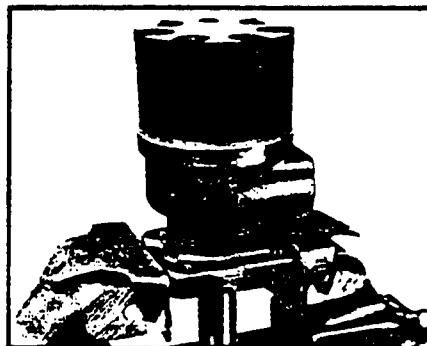

Figure 3
1. Position the MAF assembly in a soft jawed vise, with coupling shaft (11) pointed down, the vise jaws clamping firmly on the sides of the housing (15) mounting flange. SEE FIGURE 3.